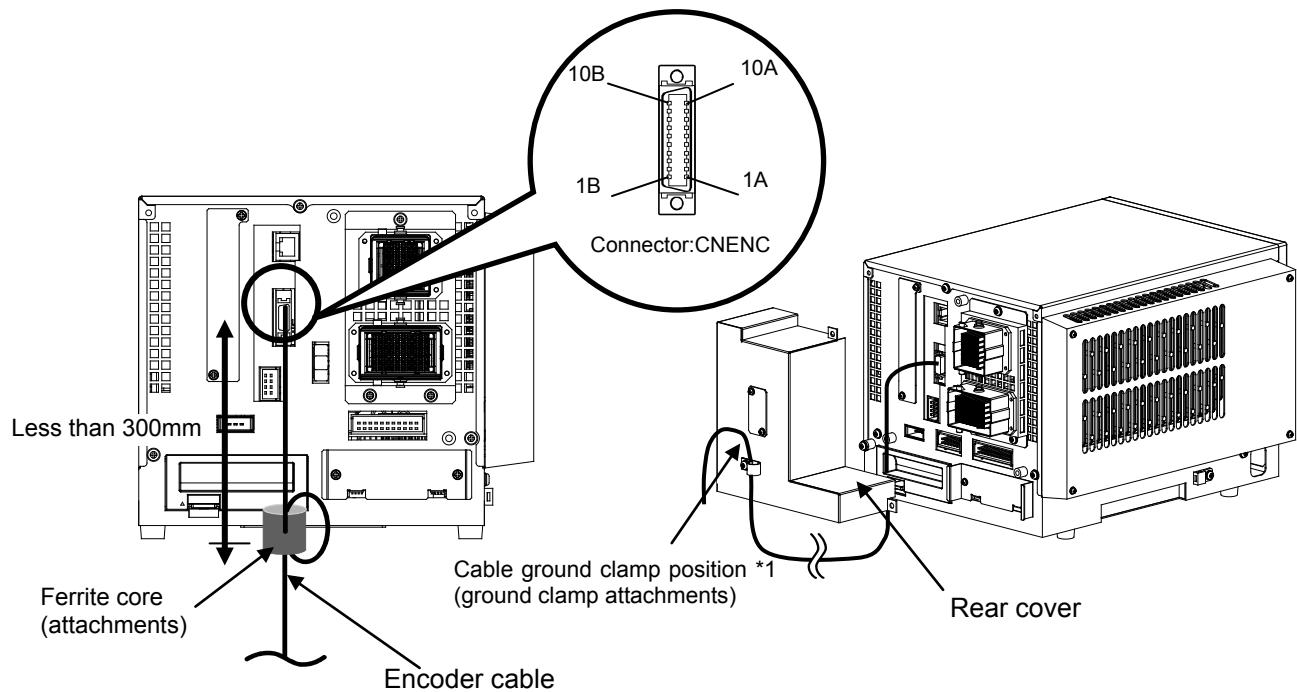

Figure 10-9 Installation of encoder cable (CR1D-700 series)
- *CR1D-700 series: "Figure 10-9 Installation of encoder cable (CR1D-700 series)"